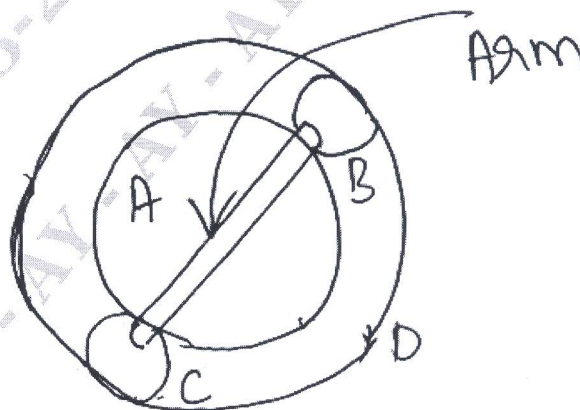

Fig. Q4 (b)
- b. An Epicyclic train of gears is arranged as shown in Fig. Q4 (b). How many revolutions does the arm, to which the pinions B and C are attached make.